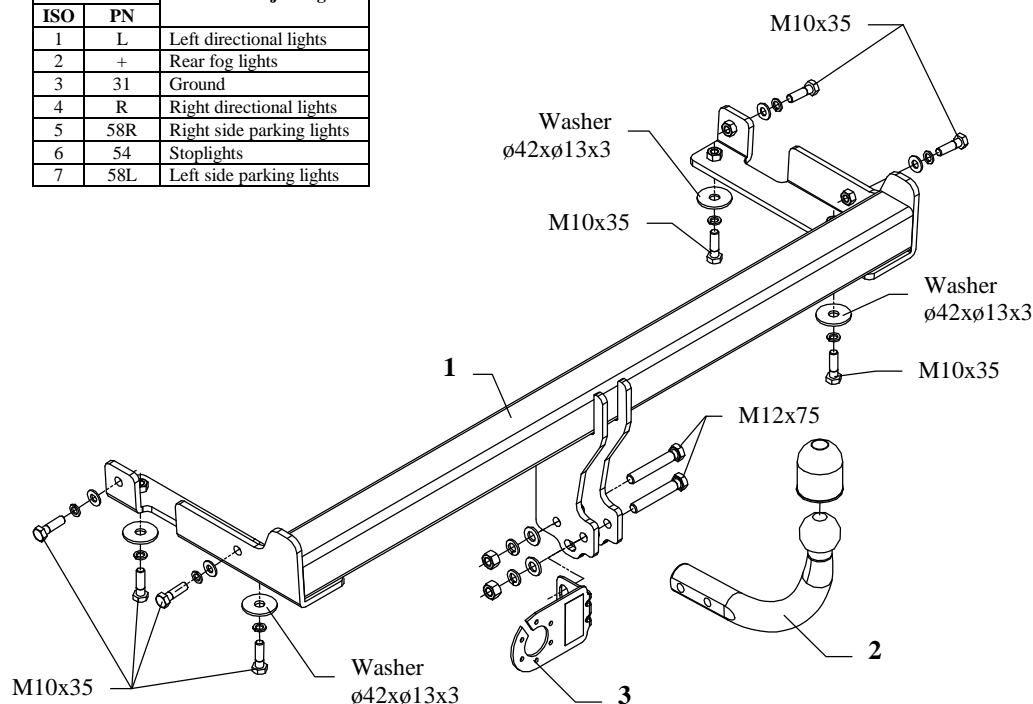

Fig. 1
4. If necessary, open the ends of the frame members by removing the end-plates from the rear panel. Slip main bar of the towbar (pos. 1) to the frame members in this way, so holes in the towbar tally with holes in the frame.
5. Fix the towbar to frame members using bolts M10x35mm (pos. 6) – see fig. 1.
7. Fix tow-ball (pos. 2) and socket plate (pos. 3) using bolts M12x75mm (pos. 5) from accessories.